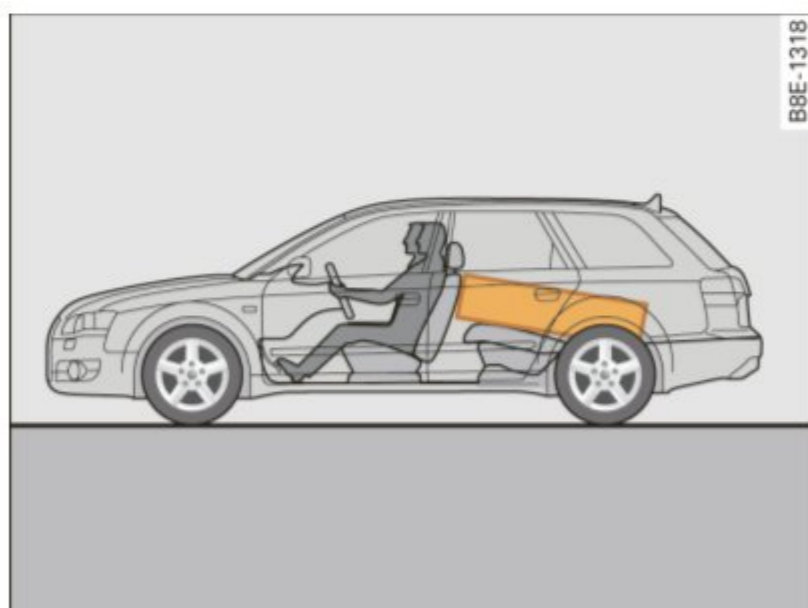

Fig. 174 Safe load positioning: place heavy objects as low and as far forward as possible.
- Always place and properly secure heavy items in the luggage compartment as low and as far forward as possible ⇒ fig. 174.